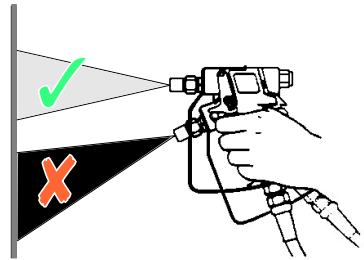

Fig. 10: Spray angle
- ▶ Hold the spray gun at a right angle (90°) to the surface to be coated. As soon as you hold the spray gun at a different angle, the coating will become uneven and patchy (see Fig. 10).